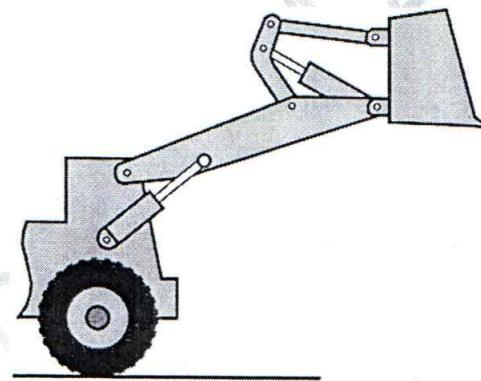

Fig. 1a
- 1 a) Draw the kinematic diagram and determine the degree of freedom for the excavator mechanism as shown in the figure1a. 8